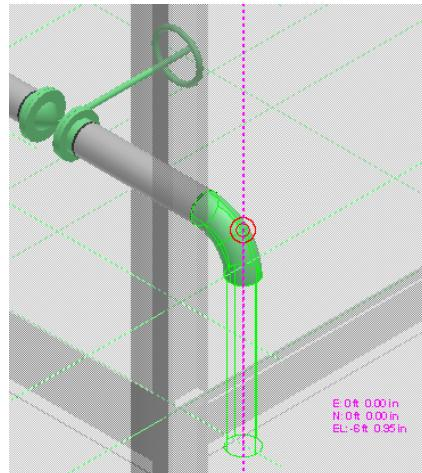

Figure 51: Pipe Straight Feature
- While in the **Insert Component** command, activate the **Route Pipe** command to place a **Pipe Straight Feature** at the current active route location, as shown in Figure 51.